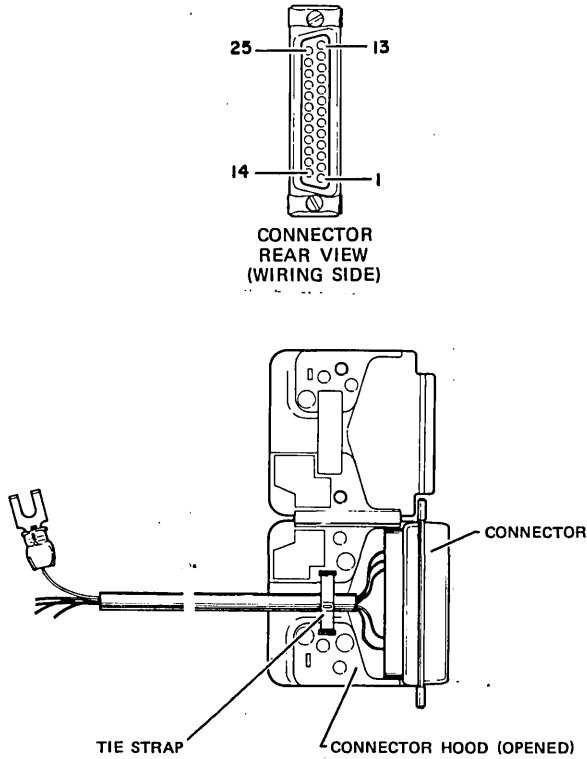

Figure B-4. Data Set Cable Kit Assembly
1. Connect applicable color-coded wires to connector according to table B-1 and figure B-4. Do not connect more than one interface selection to connector. Pins cannot be extracted from connector except with a special tool.
2. Place connector in mounting slot of connector hood, and clamp down cable with tie strap provided (refer to figure B-4). Do not clamp down unused wires with tie strap.